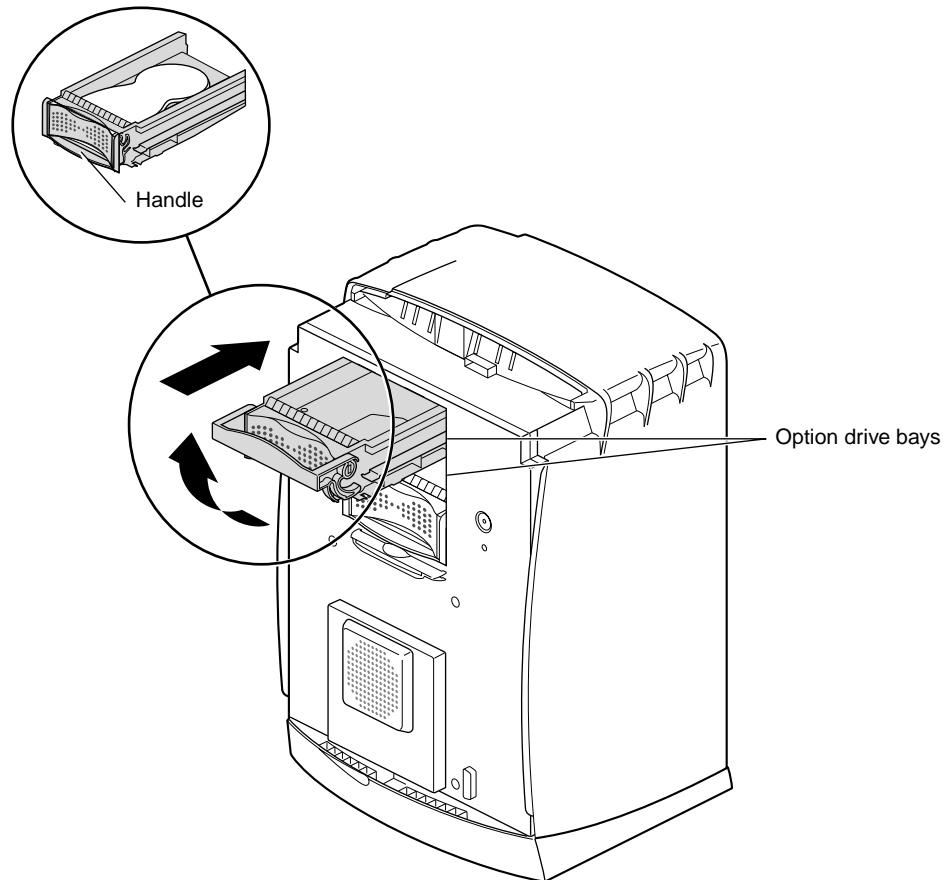

Figure 7-7 Sliding In an Optional Drive
1. Lift the handle on the drive to a horizontal position, and slide the drive into the drive bay. The drive handle is the same color as the drive. See Figure 7-7.